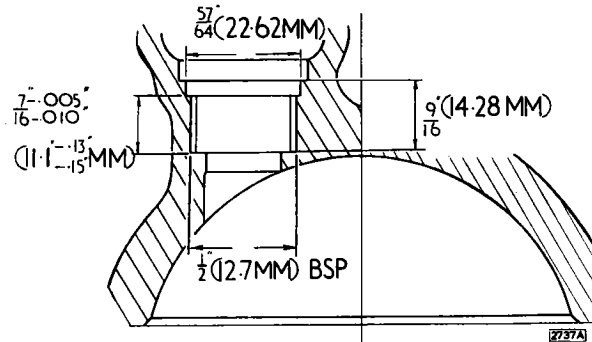

Fig. 55. Boring and tapping instructions.
- Bore out the stripped thread to 0.75" (19.05 mm.) diameter and tap $\frac{1}{8}$ " B.S.P. as shown in Fig. 55.
- Make a counterbore $\frac{57}{64}$ " (22.62mm.) diameter to take the larger diameter of the insert as shown in Fig. 55.